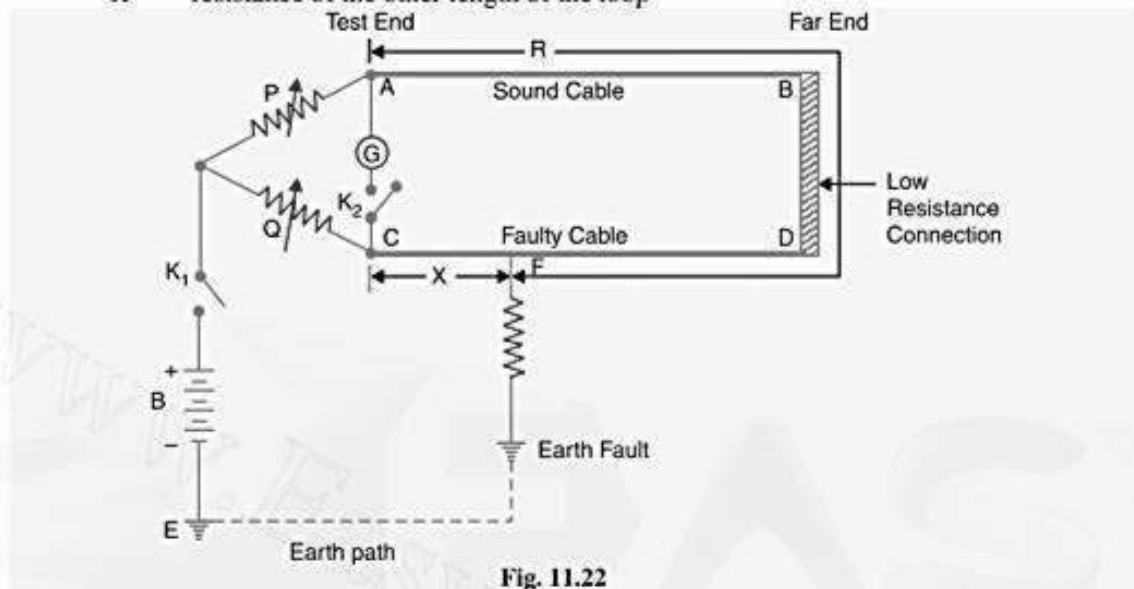

Fig. 11.22
- (i) **Earth fault :** Fig. 11.22 shows the circuit diagram for locating the earth fault by Murray loop test. Here AB is the sound cable and CD is the faulty cable; the earth fault occurring at point F . The far end D of the faulty cable is joined to the far end B of the sound cable through a low resistance
link. Two variable resistances P and Q are joined to ends A and C (See Fig. 11.22) respectively and serve as the ratio arms of the Wheatstone bridge.